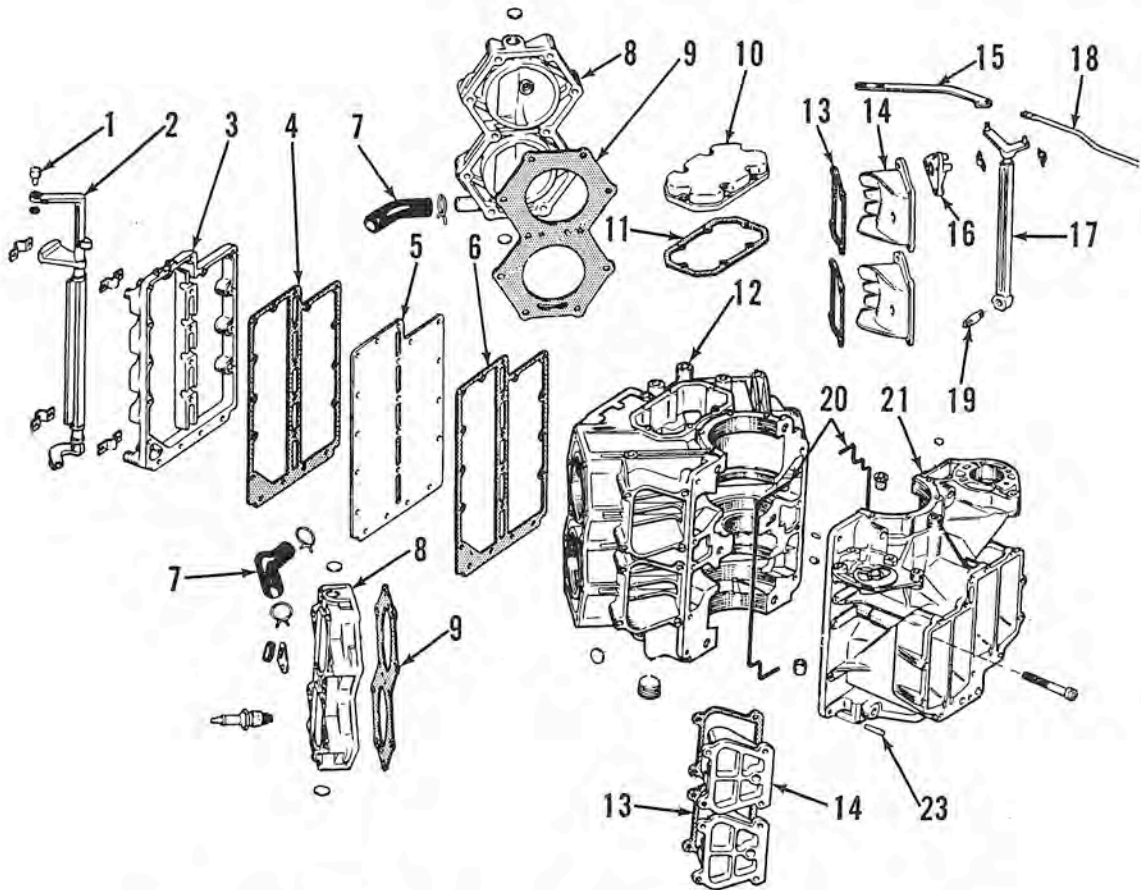

Fig. J98—Exploded view of power head cylinder block and associated parts.
**All Models.** Refer to Figs. J98, J99 and J100. Remove the bolts retaining upper crankcase head (13—Fig. J99 or J100). Remove snap ring (30) from lower end of crankshaft, and remove carbon seal assembly (25 through 29). Remove the bolts (31) retaining lower crankcase head and loosen, but do not remove the thrust plate screws (32). Refer to Fig. J101. Drive out the tapered aligning dowels (23—Fig. J98) by driving
The mating surfaces of crankcase halves are sealed by means of the sealing strips (20—Fig. J98) which fit in grooves in face of front crankcase half (21). When installing the sealing strips, first make sure the mating surfaces and sealing grooves are absolutely clean and free from old cement, nicks or other damage or foreign matter which might interfere with a perfect seal. Apply a small amount of hardening cement such as Sealer 1000 in grooves, and install the sealing strip so that ends extend an equal amount from ends of grooves. Seat the sealing strip carefully and evenly in grooves with the fingers by working AWAY from crankshaft bore; then trim ends to extend  $\frac{1}{8}$ -inch into bore to assure a good butt and seal. Coat mating surface of block thinly and evenly with a good hard-drying cement; then immediately install crankcase front half. Install and seat the tapered aligning dowels; then install and tighten the retaining cap screws. The suggested tightening torques are 60-84 inch-pounds for the small screws and 144-168 inch-pounds for the large bolts.
Fig. J101—Lower view of power head assembly. To disassemble, remove lower head cap screws (31) and loosen screws (32). Drive out the tapered pins (23) by working from cylinder side. Refer to Fig. J98 for legend.